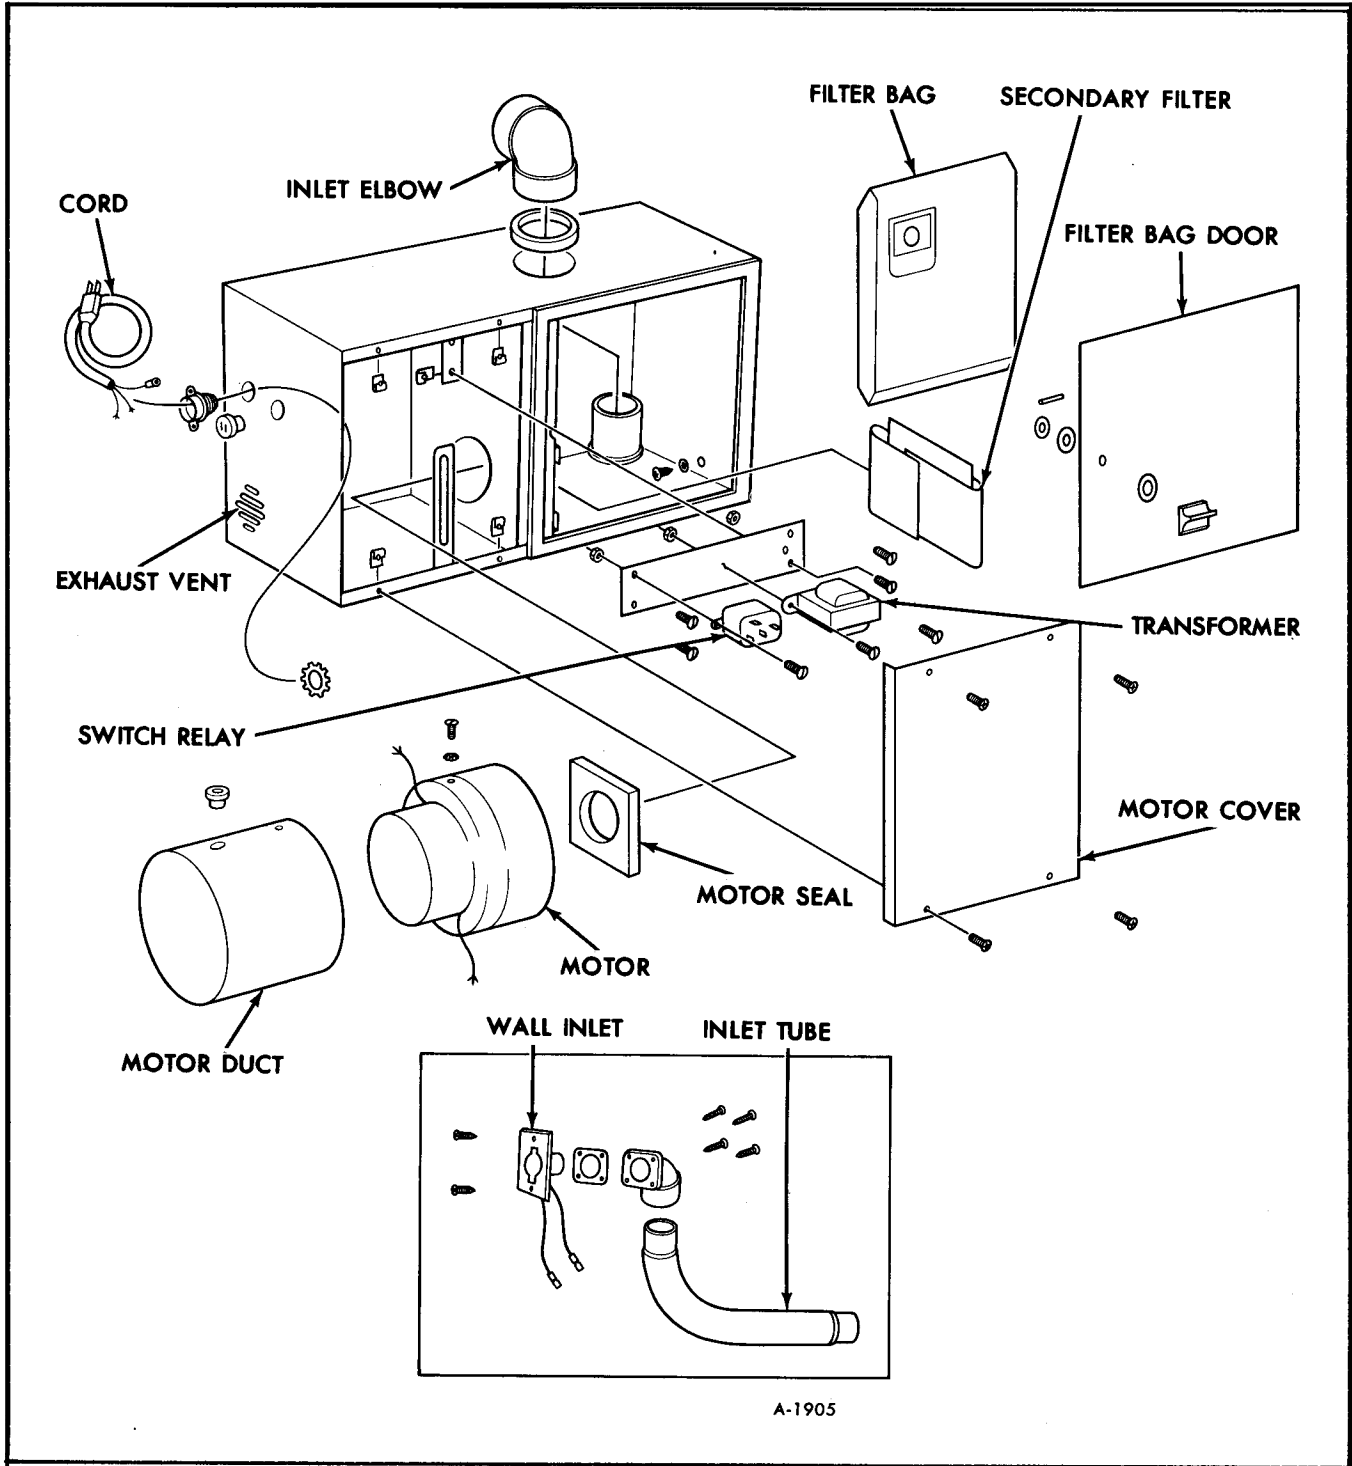

Figure 3-Vacuum Cleaner Components
a. Unplug the 120-volt motor wires at the relay (See figure 3).
VACUUM MOTOR REPLACEMENT (FIGURE 3)
2. Remove motor compartment cover (See figure 3).
5. Remove motor and motor duct from cabinet (figure 3).
2. Install motor and motor duct in vacuum cabinet making sure motor seal is properly positioned (figure 3).